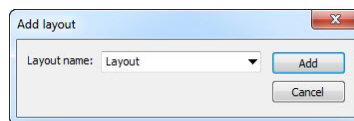

Figure 9 – Add layout dialog
2. Enter new layout name in the **Add layout** dialog (see Figure 9), which will be displayed.